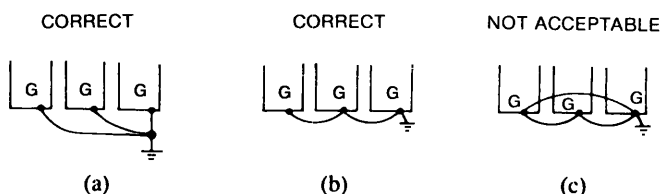

Fig. 3 Grounding of Three VS-616G3 Units
- (1) Ground resistance should be 100Ω or less.
- (2) Never ground VS-616G3 in common with welding machines, motors, and other large-current electrical equipment, or ground pole. Run the ground lead in a separate conduit from leads for large-current electrical equipment.
- (3) Use the ground leads which comply with AWG standards and make the length as short as possible.
- (4) Where several VS-616G3 units are used side by side, all the units should preferably be grounded directly to the ground poles. However, connecting all the ground terminals of VS-616G3 in parallel, and ground only one of VS-616G3 to the ground pole is also permissible (Fig. 3). However, do not form a loop with the ground leads.